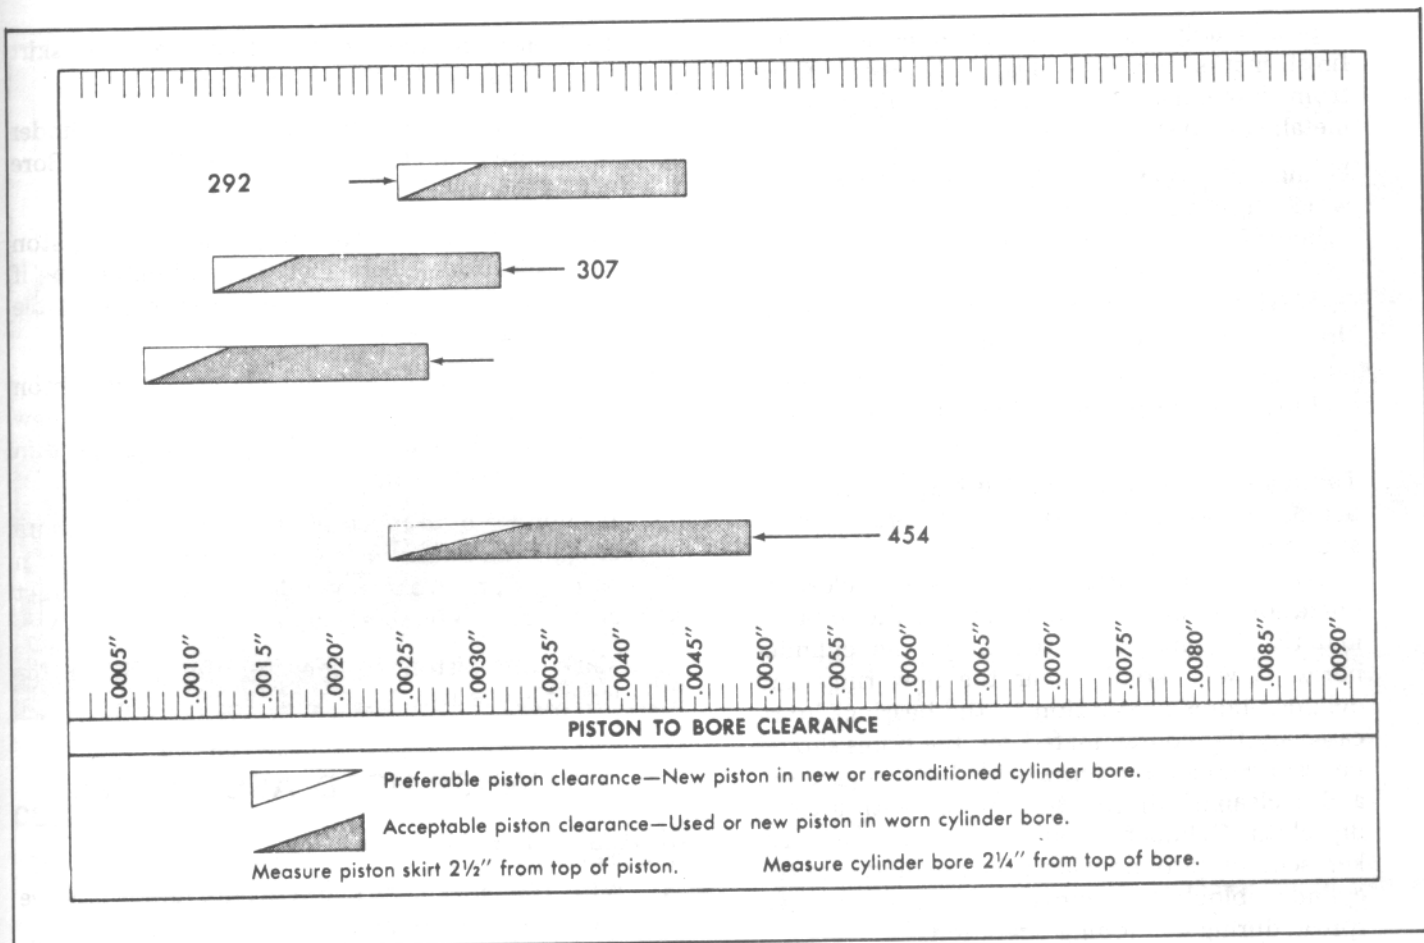

Fig. 94. Piston Selection Chart
- (d) Locate piston to bore clearance on piston selection (Chart-Fig. 94) and determine if piston to bore clearance is in the acceptable range.